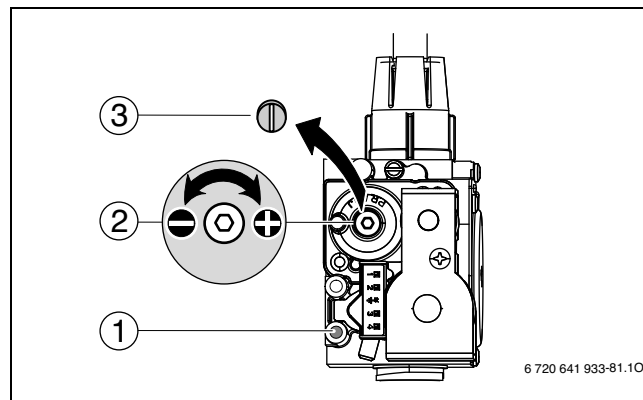

Fig. 83 Setting the CO₂ or O₂ values for minimum nominal output
- ▶ Remove screw (→ Fig. 83, [3]) from the gas valve adjustment screw (→ Fig. 83, [2]) and set CO₂ or O₂ value for minimum nominal output.
- ▶ Reinstall screw (→ Fig. 83, [3]) to cover the adjustment screw (→ Fig. 83, [2]) on the gas valve again.